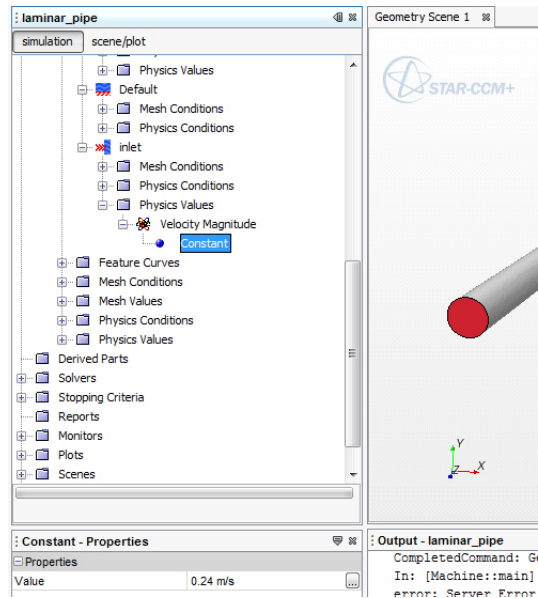

Figure 6: Specifying the magnitude of the inlet velocity.
7. Set the boundary type to inlet with a prescribed velocity – See Figure 6